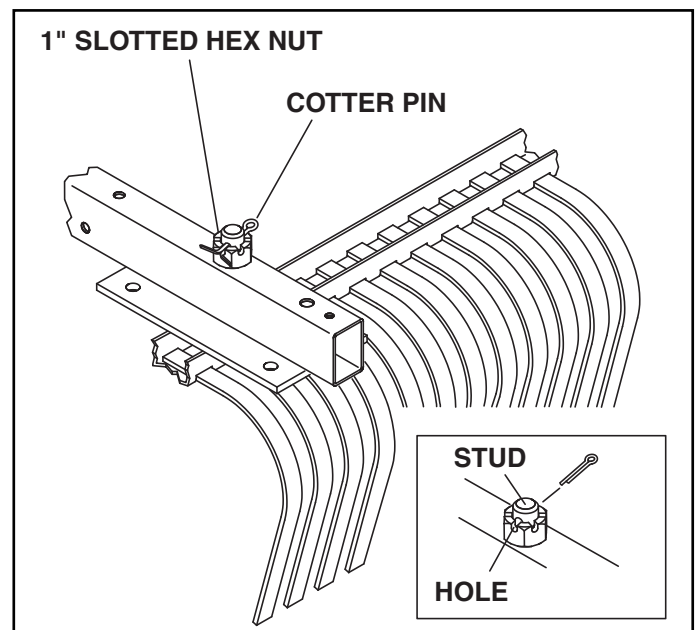

FIGURE 3
3. Back the slotted nut off until the first slot in the nut lines up with the hole in the threaded stud. If the hitch assembly will not pivot on the threaded stud, back the nut off to the next slot. Install the cotter pin through the stud and spread the ends of the pin. See figure 3.